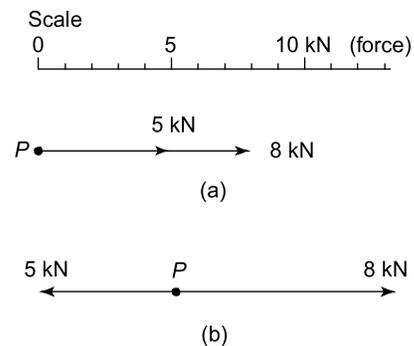

Figure 4.7
- (a) The vector diagram of the two forces acting in the same direction is shown in Figure 4.7(a), which assumes that the line of action is horizontal, although since it is not specified, could be in any direction. From above, the resultant force F is given by: $F = F_1 + F_2$, i.e. $F = (5 + 8) \text{ kN} = 13 \text{ kN}$ in the direction of the original forces.
- (b) The vector diagram of the two forces acting in opposite directions is shown in Figure 4.7(b), again assuming that the line of action is in a horizontal direction. From above, the resultant force F is given by: $F = F_2 - F_1$, i.e. $F = (8 - 5) \text{ kN} = 3 \text{ kN}$ in the direction of the 8 kN force.